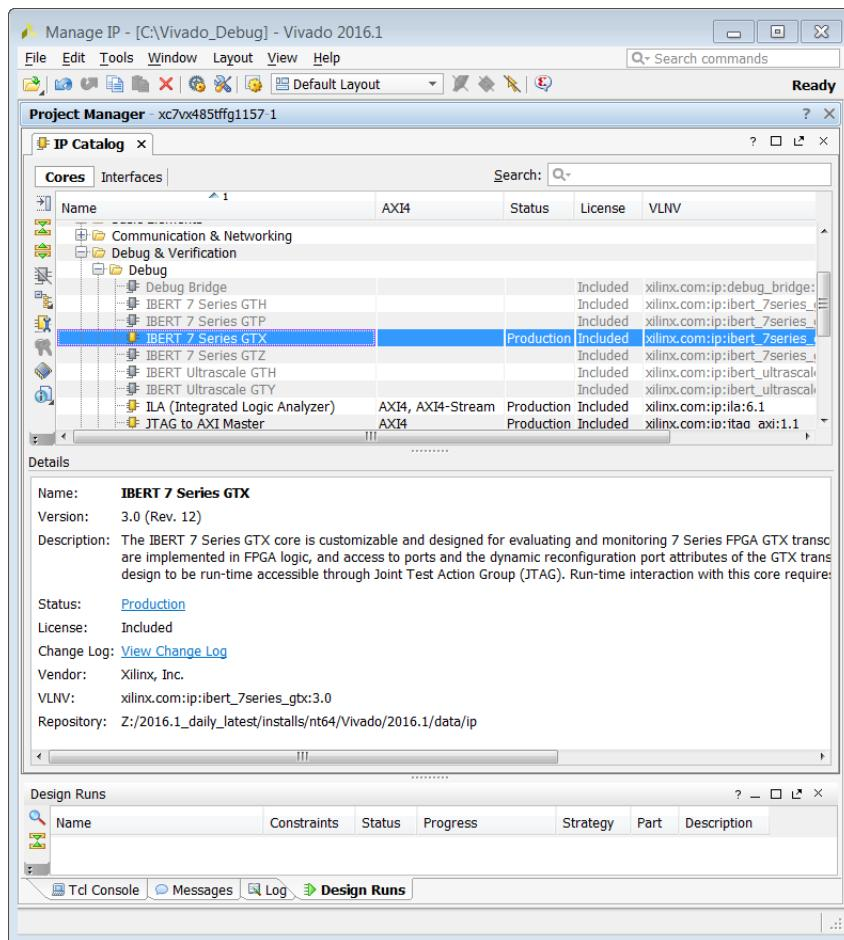

Figure 13-1: IP Catalog Showing the IBERT 7 Series GTX Core
4. In the **IP Catalog** under **Debug and Verification > Debug**, you will find one or more available IBERT cores as shown in Figure 13-1, depending on the device selected in the previous step.